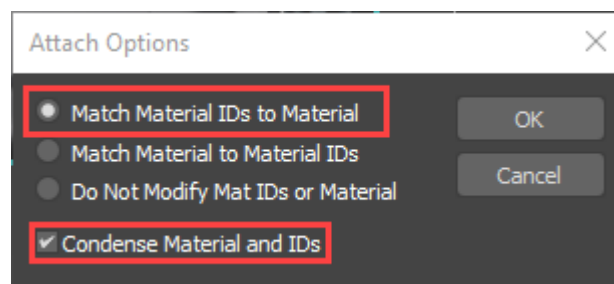

Figure 1.11. **Attach Options** dialog window
5. After that select the **front_tyres** element and the **Attach Options** window popped up. It happened because the attached element has the material that differs from the material of the element to which it is being attached. In such a case select the **Match Material IDs to Material** option and turn on the **Condense Material and IDs** check box and click **OK**, see Figure 1.11. Then the element will be automatically attached.